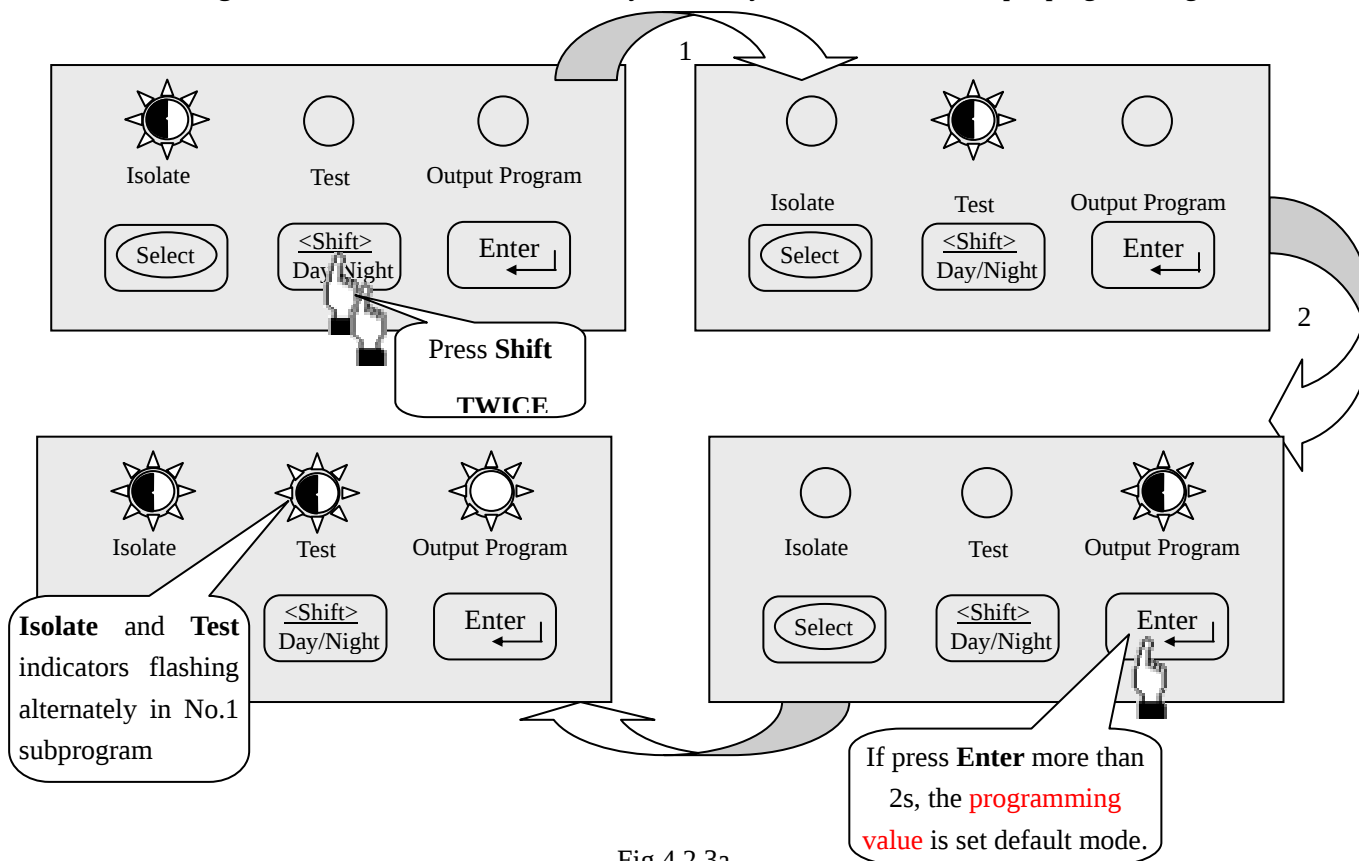

Fig.4.2.3a
- 4.2.4.1 In the output programming state (see Fig.4.2.3a), the **Isolate** and **Test** indicators flash alternately. Press the **Enter** pushbutton at this time, the system will enter in MCP configuring state. See Fig.4.2.4a.